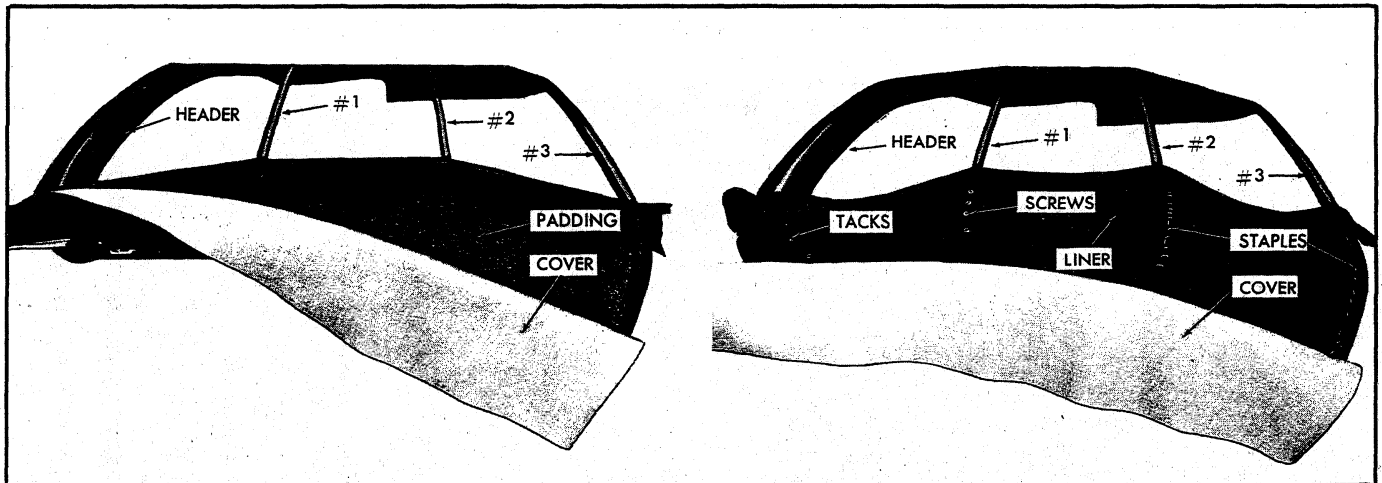
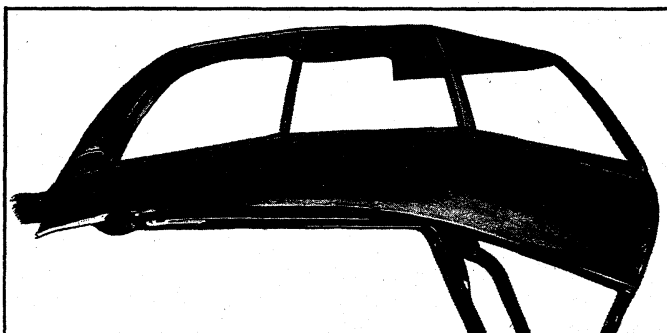

Fig. 106—Pad Construction
Fig. 107—Pad Installed
3. If new pads are required, install at this time, aligning with marks made when old pads were removed. Figure 106 shows pad construction; Figure 107 shows pad installed.